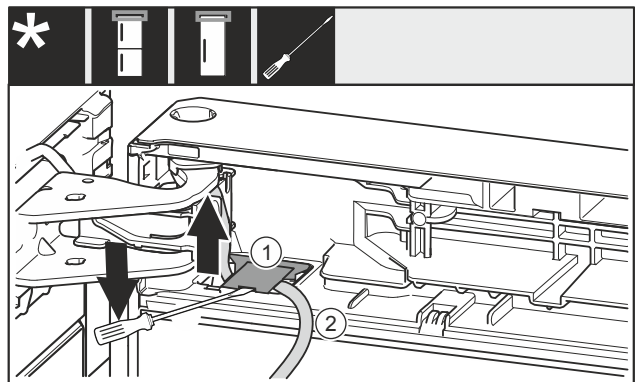

Fig. 24
- Use the slotted screwdriver to lift the cover Fig. 24 (1) up and pull it out.
- Pull out the cable Fig. 24 (2).